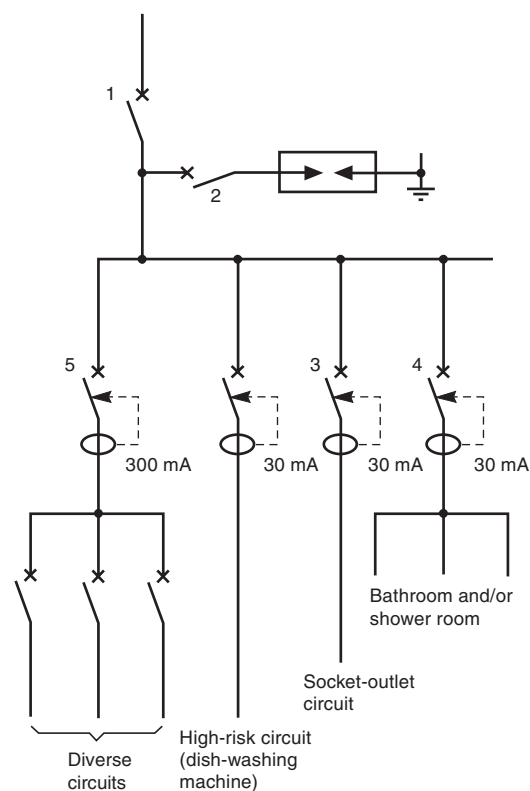

Fig. Q7 : Installation with incoming-supply circuit-breaker having no differential protection
- All outgoing circuits from the distribution board must be protected by 30 mA or 300 mA RCDs according to the type of circuit concerned as discussed in chapter F. Where a voltage surge arrester is installed upstream of the distribution board (to protect sensitive electronic equipment such as microprocessors, video-cassette recorders, TV sets, electronic cash registers, etc.) it is imperative that the device automatically disconnects itself from the installation following a rare (but always possible) failure. Some devices employ replaceable fusing elements; the recommended method however as shown in **Figure Q7**, is to use a circuit-breaker.